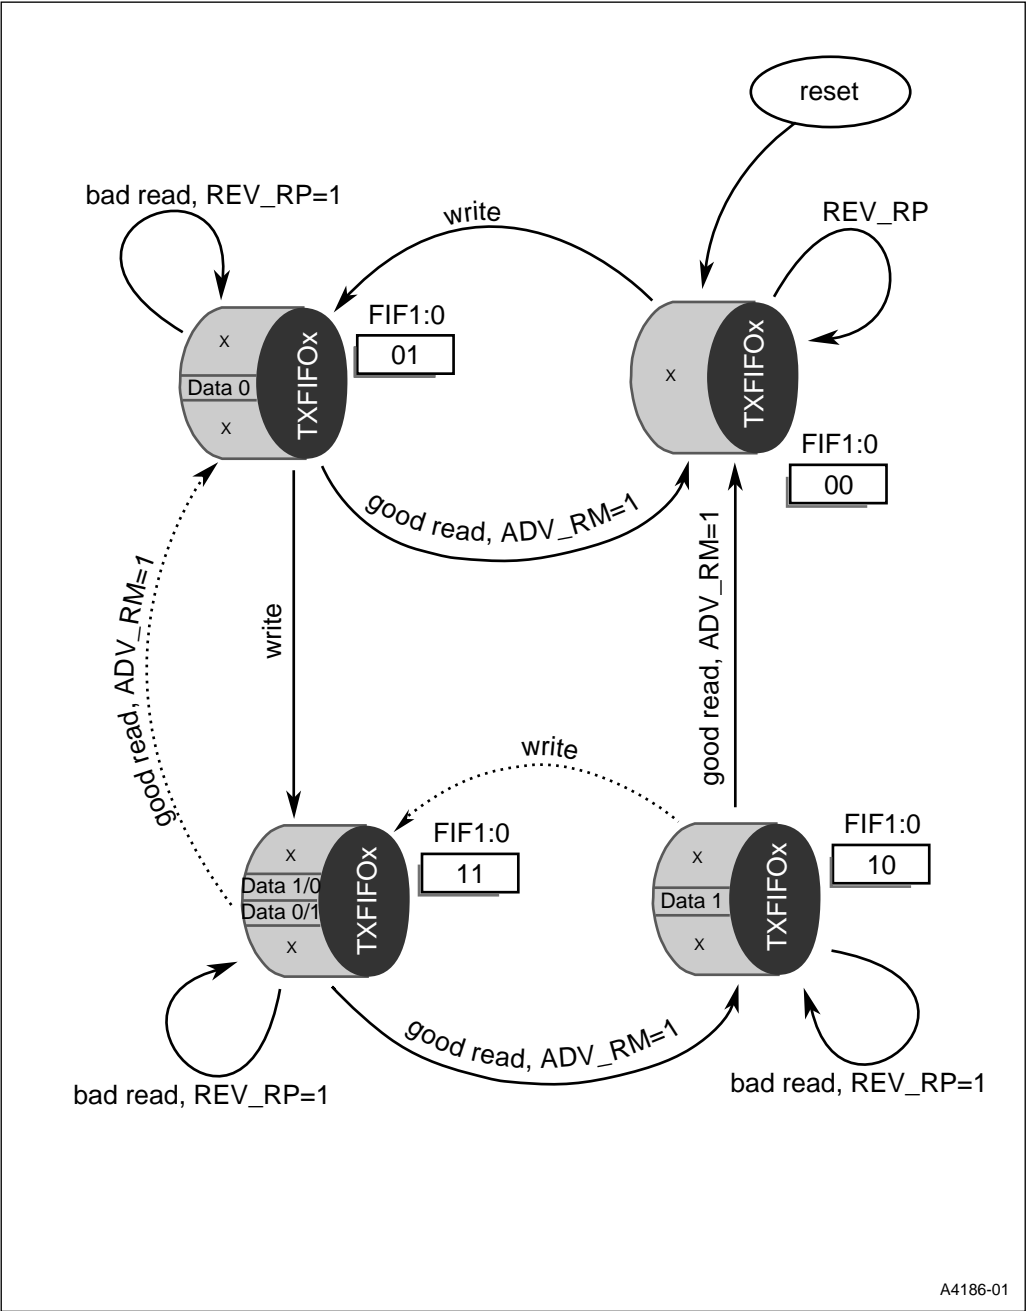

Figure 7-3. TXFIFO Operational Model
Figure 7-3, an operational model of TXFIFOx, shows the management of the data sets for writes by the 82930A to the FIFO and reads of the FIFO by the SIU. After a reset, the FIFO is empty (upper right, 00[†]). The first write by the 82930A fills data set 0 (upper left, 01). If the SIU now reads the FIFO and the transmission is good, software sets the ADV_RM bit in TXCONx, and the FIFO returns to 00. The diagram shows the other possible states of the FIFO and the transitions between them. Note that the case of both sets full (11) actually represents two states, which differ in the order of the data sets. The write transition from 01 to 11 places data set 1 after data set 0 in the FIFO, whereas the write transition from 10 to 11 places data set 0 after data set 1 in the FIFO. In Figure 7-3, software manages the movement of the read marker and read pointer. If